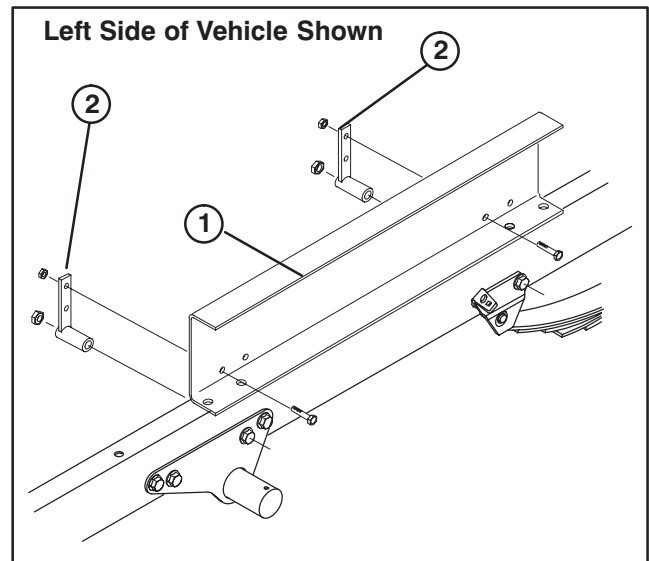

Figure 2
3. Install a new 1/2-13 x 3-1/2" lg. capscrew thru engine frame and vehicle frame. Insert a lift mounting bracket onto capscrew and loosely secure with locknut removed. Bracket to be positioned as shown in figure 2.
5. Install a new 1/2-13 x 3-1/2" lg. capscrew thru leaf spring mount and vehicle frame. Insert a lift mounting bracket onto capscrew and loosely secure to engine frame and vehicle frame with locknut removed. Bracket to be positioned as shown in figure 2.
11. Secure lift mounting brackets to left side of lift with (2) 5/16–18 x 1" lg. flange head capscrews and flangenuts (Fig. 2).